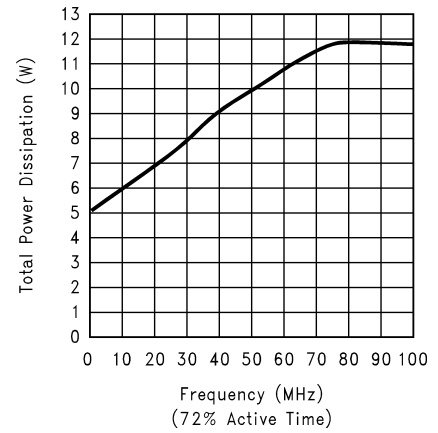

FIGURE 6. Power Dissipation vs Frequency
*Figure 6* shows the maximum power dissipation of the LM2463 vs. Frequency when all three channels of the device are driving an 8 pF load with a 40 Vp-p alternating one pixel on, one pixel off signal. The graph assumes a 72% active time (device operating at the specified frequency) which is typical in a monitor application. The other 28% of the time the device is assumed to be sitting at the black level (65V in this case). This graph gives the designer the information needed to determine the heat sink requirement for his application. The designer should note that if the load capacitance is increased the AC component of the total power dissipation will also increase.
The LM2463 case temperature must be maintained below 100°C. If the maximum expected ambient temperature is 70°C and the maximum power dissipation is 11.9W (from *Figure 6*, 180 MHz bandwidth) then a maximum heat sink thermal resistance can be calculated: